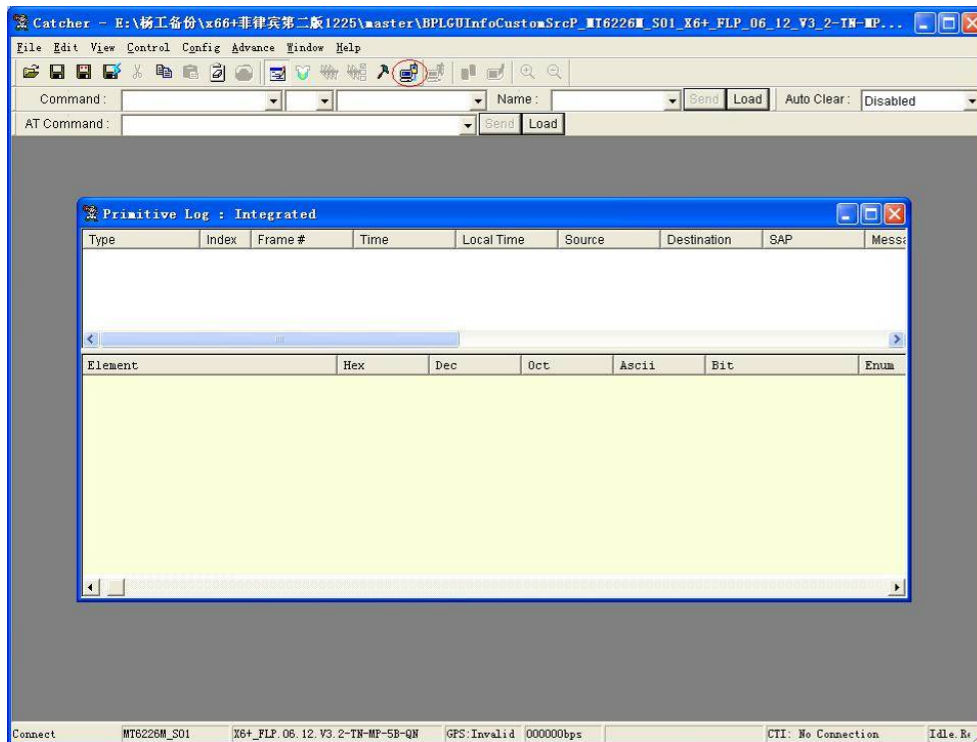
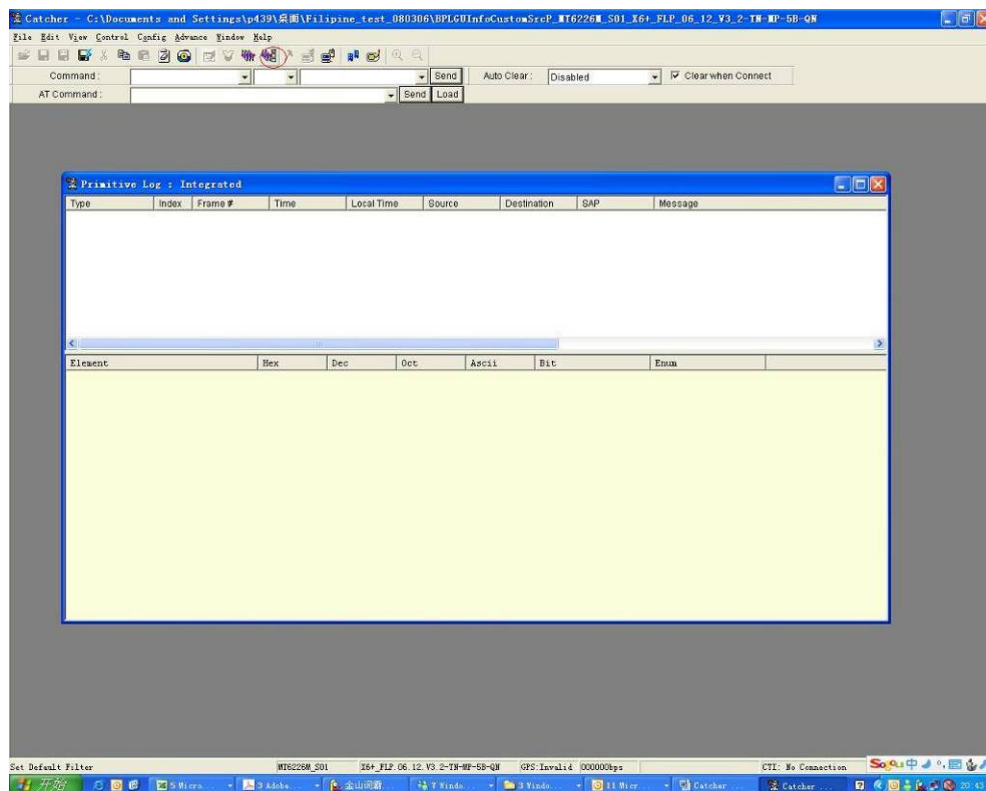
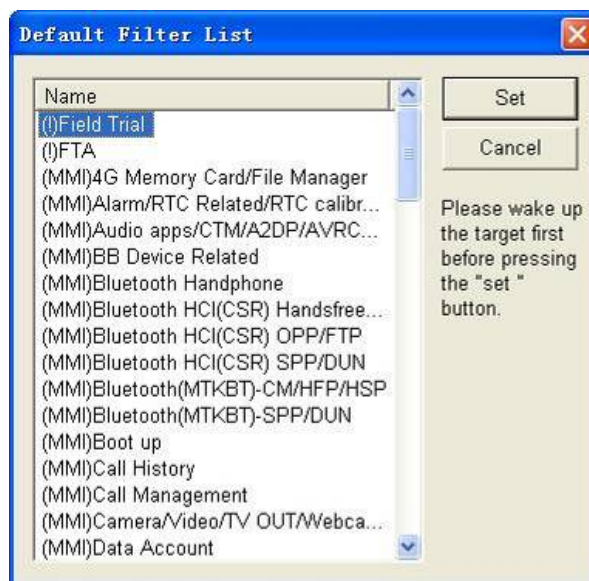

Figure 11
Figure 12
Figure 13
5.1 click the button “connect” in figure 11, click the button “Default Filter” in figure12, select “Field Trial” button in figure 13, and then click “set” in Figure13.